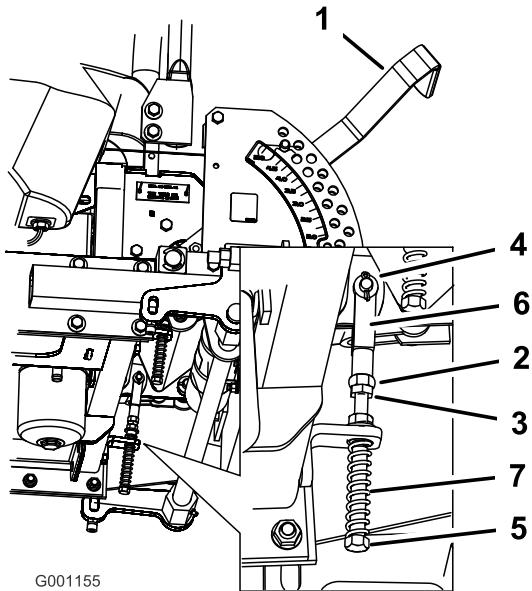

Figure 68
8. If adjustment is needed, loosen the nut and jam nut against the yoke (Figure 68).
9. Apply slight rearward pressure on the motion control lever, turn the head of the adjustment bolt in the appropriate direction until the control lever is centered in the neutral lock position (Figure 68).
10. Tighten the nut and jam nut (Figure 68).